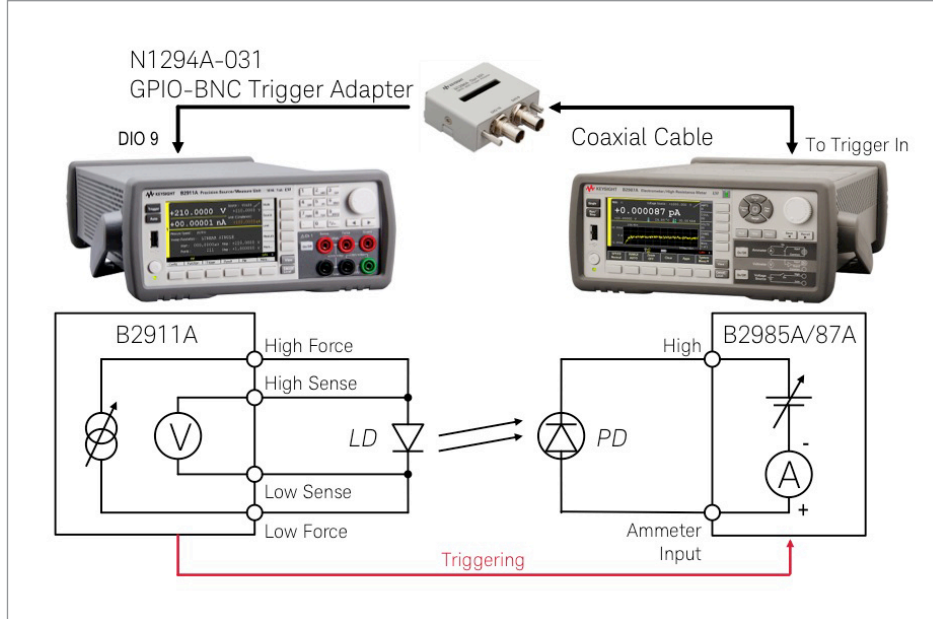

Figure 4. System configuration to evaluate the L-I-V Characteristics of a laser diode
Figure 4 shows a system diagram example to evaluate the L-I-V characteristics of a LD using the B2900 Precision Instrument Family. The Keysight B2911A Precision Source/Measure Unit (SMU) is used to apply drive current to the LD and to measure the LD's voltage. The B2911A can cover currents from 10 fA to 3 A (DC)/10.5 A (pulsed) and voltages from 100 nV to 210 V. The SMU has the capability to source and measure both positive and negative voltages and currents, so it can easily characterize the LD's DC parameters. Since the currents supplied to the LD can be quite large, a 4-wire connection (remote sensing) configuration is commonly used.